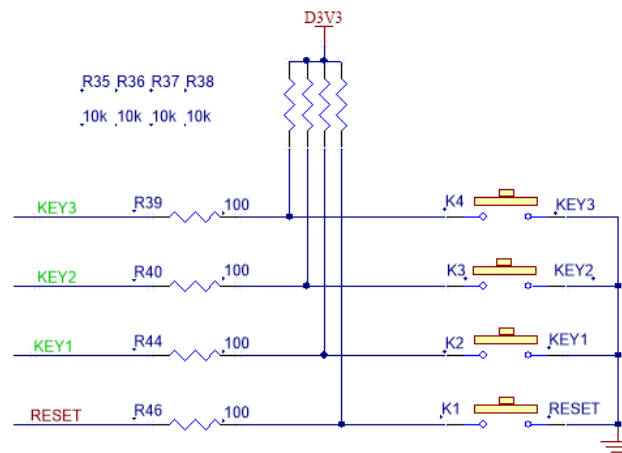

Figure 13-1
The board contains 4 independent buttons, 3 user buttons (KEY1~KEY1), and 1 function button (RESET). The buttons are all low pressed as low level (0) and released as high level (1). The schematic of the 4 buttons is shown in Figure 13.1.